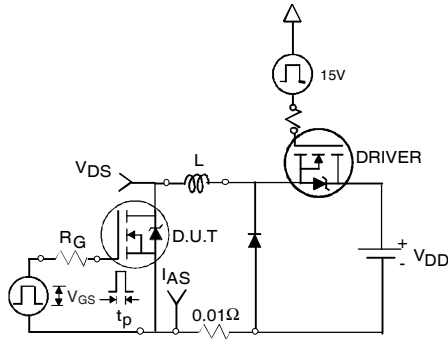

Fig 12a. Unclamped Inductive Test Circuit
- ② Limited by T_{Jmax} ; starting $T_J = 25^\circ\text{C}$, $L = 0.13\text{mH}$, $R_G = 25\Omega$, $I_{AS} = 31A$, $V_{GS} = 10V$. Part not recommended for use above this value.
- ③ $I_{SD} \leq 31A$, $di/dt \leq 1070A/\mu s$, $V_{DD} \leq V_{(BR)DSS}$, $T_J \leq 175^\circ\text{C}$.
- ④ Pulse width $\leq 1.0\text{ms}$; duty cycle $\leq 2\%$.
- ⑤ $C_{oss \text{ eff.}}$ is a fixed capacitance that gives the same charging time as C_{oss} while V_{DS} is rising from 0 to 80% V_{DSS} .
- ⑥ Limited by T_{Jmax} , see Fig.12a, 12b, 15, 16 for typical repetitive avalanche performance.
- ⑦ This value determined from sample failure population. 100% tested to this value in production.
- ⑧ This is applied to D²Pak, when mounted on 1" square PCB (FR-4 or G-10 Material). For recommended footprint and soldering techniques refer to application note #AN-994.
3. Equation below based on circuit and waveforms shown in Figures 12a, 12b.